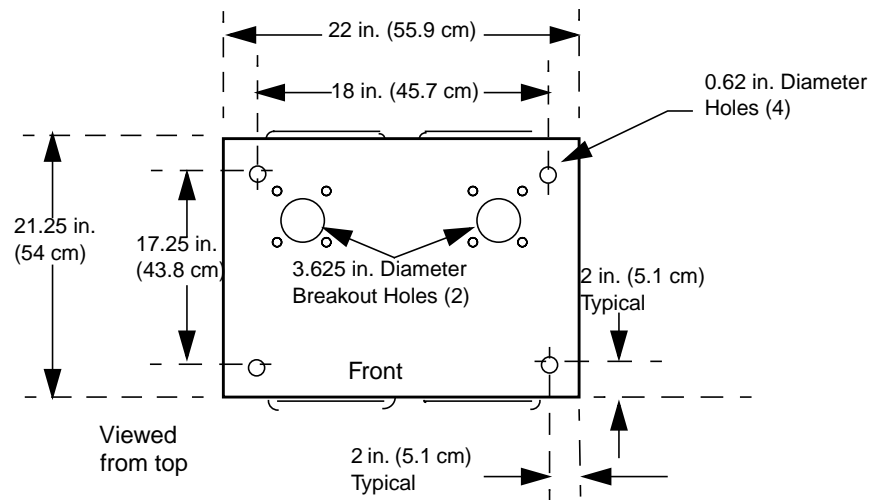

Figure 3-8: Drilling Template for the Base of a 46-Inch Cabinet
- Base mounting (see Figure 3-8)
- 46-in. cabinet (see Figure 3-8)